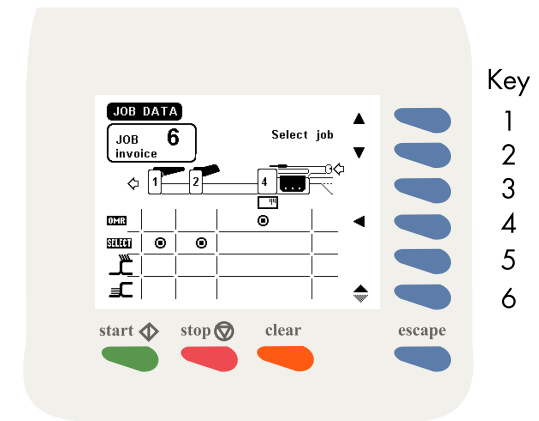

Fig. 14
When key 6 is pressed in the upstream (transport) module screen, the screen in Fig. 14 is displayed. The screen shows the following functions:
- select a higher job number (key 1).
- select a lower job number (key 2).
- go back to the inserting module (key 4).
- go to previous job data screen of the upstream (transport) module (key 6).